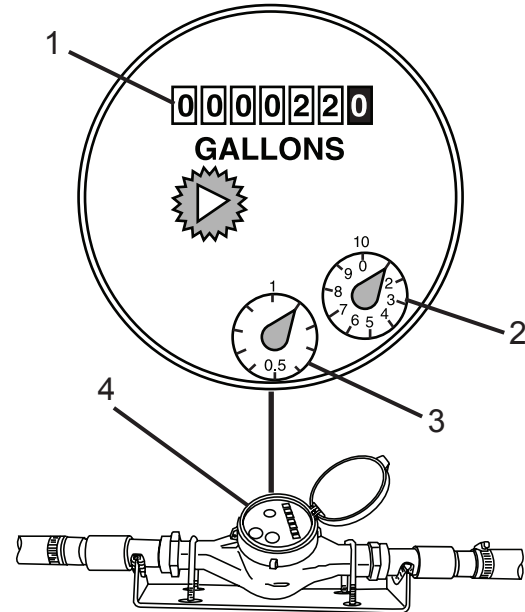

Figure 122
The Precision PMM™ water meter (Figure 122, Item 4) is installed directly in the water supply line to monitor the amount of water used.
- a. Record the reading from the counter (Figure 122, Item 1), in this case 220 gallons (833 liters).
- b. Add the reading from the sweep hand on the “10” counter (Figure 122, Item 2), in this case 1 gallon (3.8 liter).
(tenths of a gallon) counter (Figure 122, Item 3), in this case 0.1 gallon (0.4 liter). The actual reading of the meter is 221.1 gallons (836 liters).